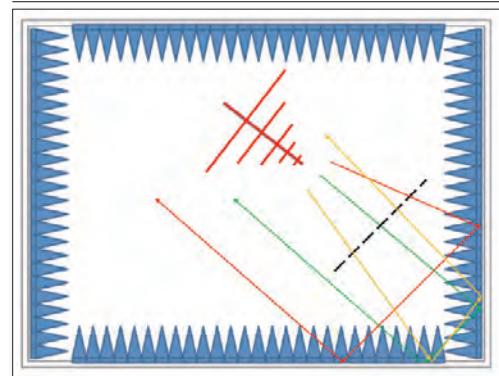
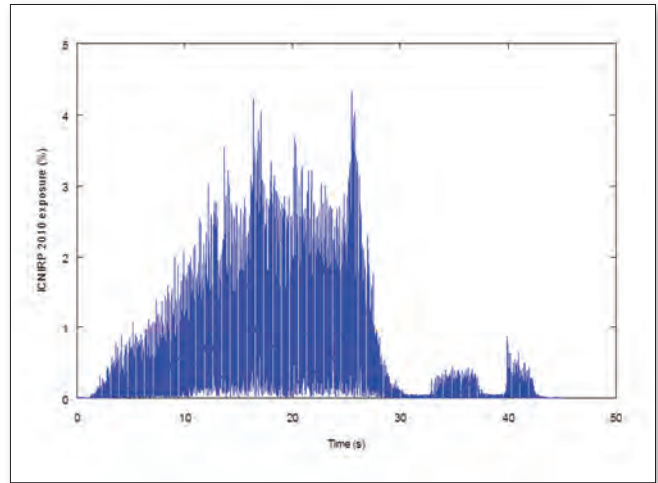

FIGURE 2: Cardinal rays reflecting off the corner walls
FIGURE 3: Time-varying exposure measure derived from measured magnetic field based on ICNIRP 2010 reference levels for general public exposure [13].
Figure 2 (next page) shows the three resultant reflected rays. It can be seen that the green boresight ray and the red half-power ray pass through the calibration plane once only (the ideal), but unfortunately the orange ray passes through twice. However, this is better than all three re-passing through the plane as is the case with the antenna facing the hot wall. On route, the orange ray passes
FIGURE 2: Time-varying exposure measure derived from measured magnetic field based on EU recommendation 1999/519/EC [10] and ICNIRP 1998 reference levels for general public exposure [9].
Sample results obtained using (2)–(3) are shown in Fig. 2 (relative to the ICNIRP 1998 reference levels) and Fig. 3 (relative to the ICNIRP 2010 reference levels). These results were derived from magnetic field data recorded in the vicinity of the driver’s feet during a simple drive cycle of 45 s duration, which included periods of acceleration and braking.